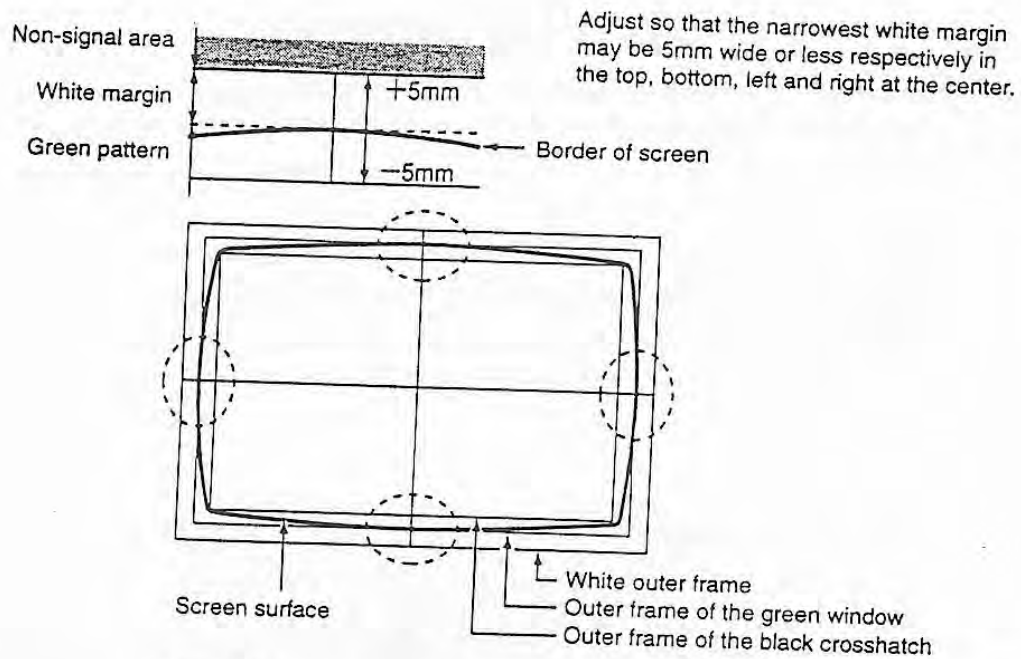

Fig. 3 Adjustment of screen size and position
1. While in the monitor test screen, display VIEW ANGLE ADJUST (CRT) (Fig. 3 "Adjustment of Screen Size and Position"). (See P-38, 7-4-5 "MONITOR TEST.")